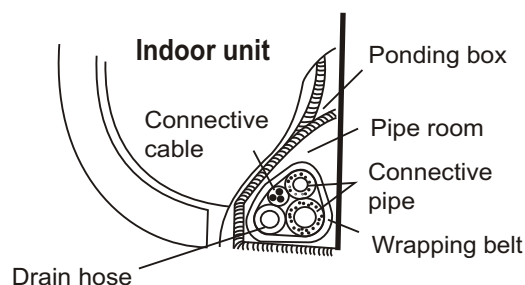

Fig.11
Bundle the tubing, connecting cable, and drain hose with tape securely, evenly as shown in Fig.11.
- Regulate the panel in the direction of the arrow in Fig.11 slightly to fit the panel's center to the center of the ceiling's opening. Guarantee that hooks of four corners are fixed well.